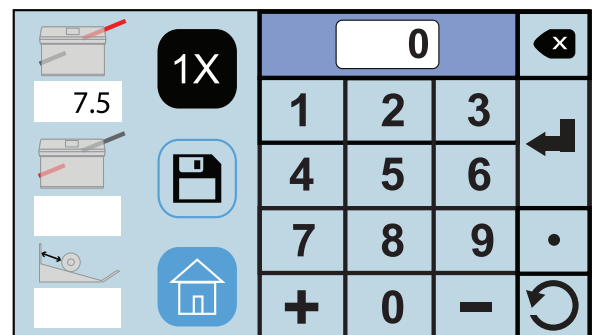

Fig. 24
The white box under the icon will show the measurement entered (Fig. 24).
2. Select the lower fold plate icon  (Fig. 24) to set the fold stop position for the second fold (the icon will flash dark gray when selected). Using the touch pad, key in the measurement for the second fold stop position, (**Note:** the minimum position is 1.49" and the max. position is 8.40".).